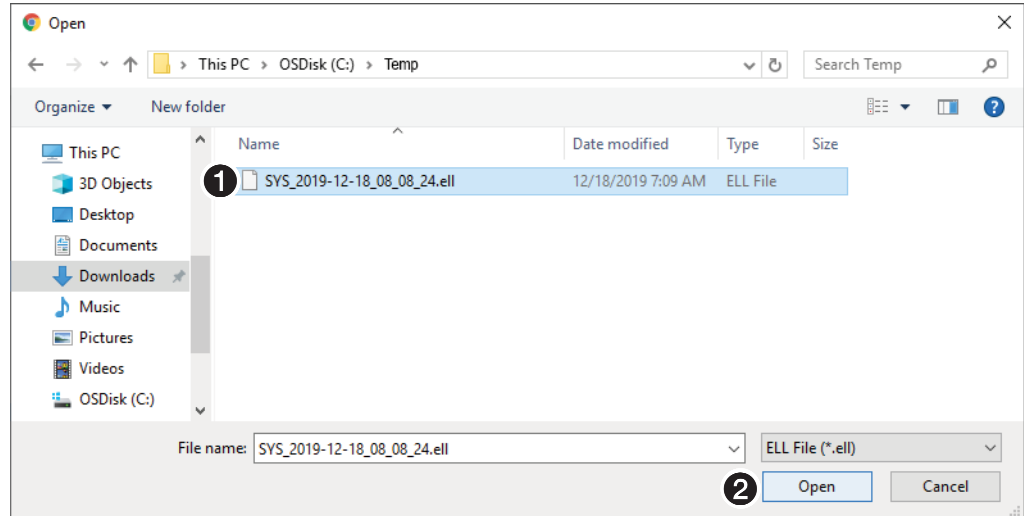

Figure 111. Open Dialog Box
2. If necessary, click **Settings** (❷).
3. If necessary, click **LinkLicense** (❸). The LinkLicense page opens.
4. Click **Select File** (❹). An open dialog box opens (see figure 111 on page 101).
5. Navigate to the folder where the LinkLicense is saved (see figure 111, ❶). Select the file.